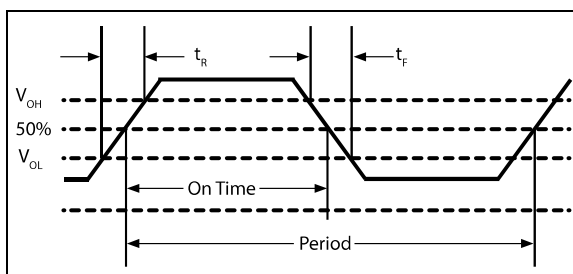

FIGURE 1-2: Waveform.
4: Duty Cycle is measured as ON Time/Period. See Figure 1-2.
- 4:** Duty Cycle is measured as ON Time/Period. See Figure 1-2.